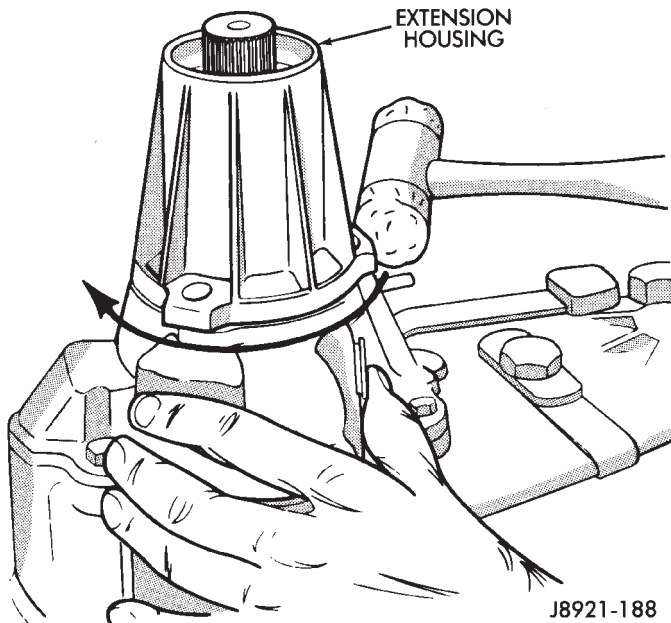

Fig. 6 Extension Housing Removal
- (1) Remove fill and drain plugs.
- (2) Remove front yoke. Discard yoke seal washer and nut.
- (3) Move range lever rearward to 4L position.
- (4) Remove extension housing attaching bolts.
- (5) Tap extension housing in a clockwise direction to break sealer bead and remove housing (Fig. 6).